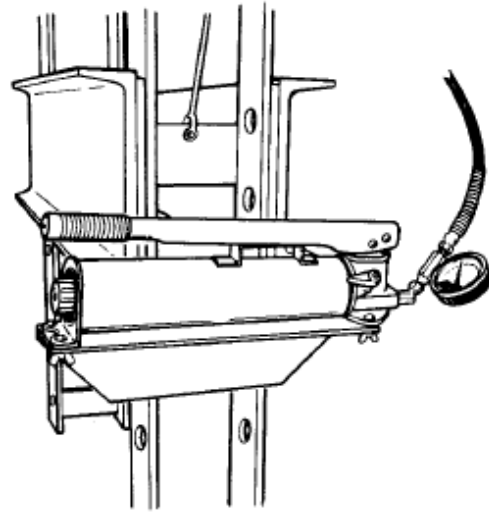

Figure 1
3. Using the fasteners noted on the parts list, attach the pump to the pump mounting bracket. See Figures 1 through 3.